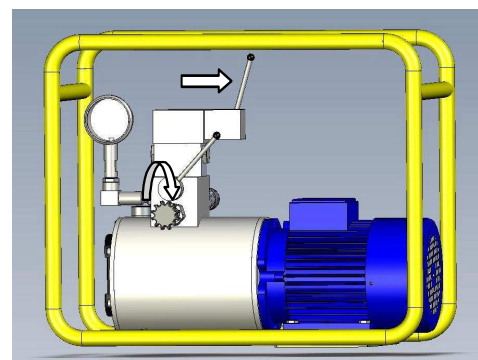

Figure 19
- Position the lever of the joystick in the CLOSED position (*Figure 19*).